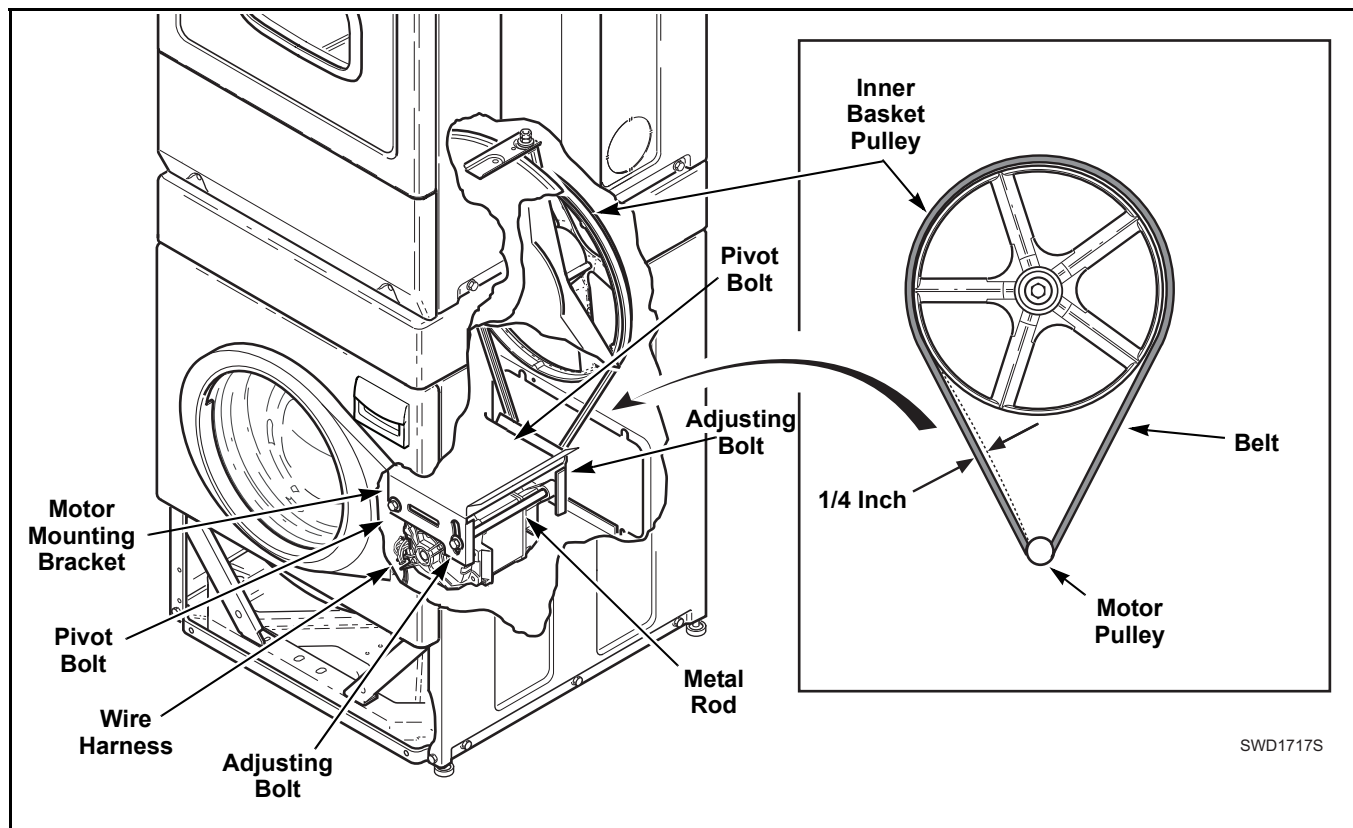

Figure 5
- Working through the access door opening, place a locking pliers on the metal rod and loosen the two adjusting bolts. Refer to *Figure 5*. Repeat procedure to loosen the two pivot bolts. Refer to *Figure 5*.
- Pull down on motor to increase belt tension. Use a Burroughs belt gauge to obtain proper tension. Proper belt tension is obtained when belt can be deflected approximately 1/4 inch (6.35 mm) from normal position when moderate pressure 50 to 60 pounds (22.68 to 27.22 Kg) is applied to a point midway between pulleys. Refer to *Figure 5*.
- After proper belt tension has been obtained, tighten belt adjusting bolts firmly, then tighten pivot bolts. Refer to *Figure 5*.